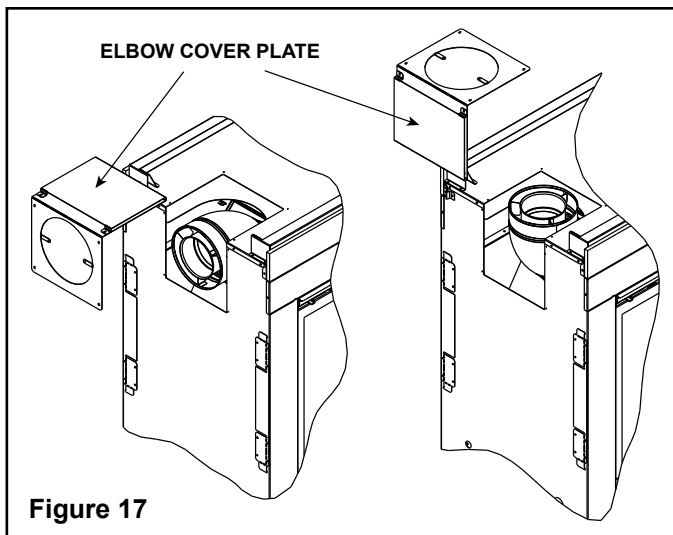

Figure 17
- To flue off the unit vertically, the elbow cover plate must first be removed from the unit (see Figure 17).